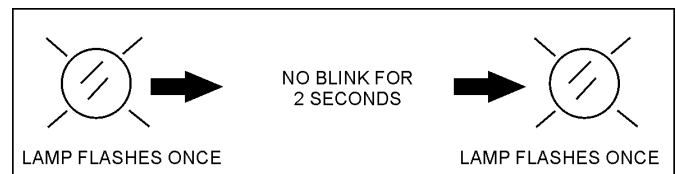

Figure 77. Normal Operating Code
5. After all engine related malfunctions have been diagnosed and corrected, and the generator is operating in a normal maner the following code (Figure 77) should be displayed once the reset button is pressed and released.